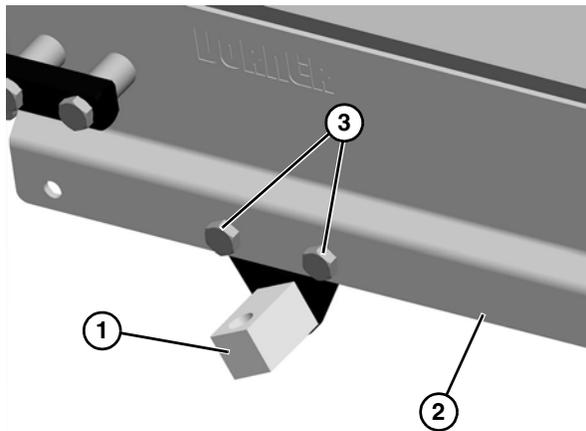

Figure 13
Failure to secure screws (Figure 13, item 3) may cause conveyor sections to drop down causing severe injury. TIGHTEN SCREWS (Figure 13, item 3) AFTER ADJUSTMENT.
2. Attach the angle ceiling support (Figure 13, item 1) to the conveyor (Figure 13, item 2) and tighten the two bolts (Figure 13, item 3).